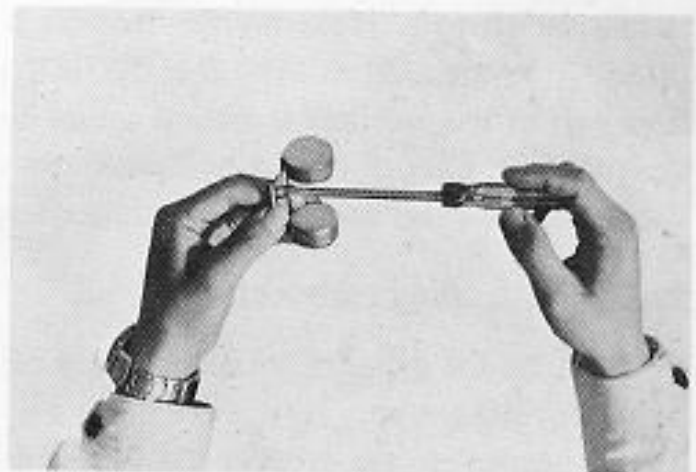

Fig.7-4-2 Adjusting float tongue
4. Make adjustments to the height by bending the portion a (contacting area of needle valve) in Fig. 7-4-2 so that the measured value of 3) will come within  $24.25 \pm 1\text{mm}$ .